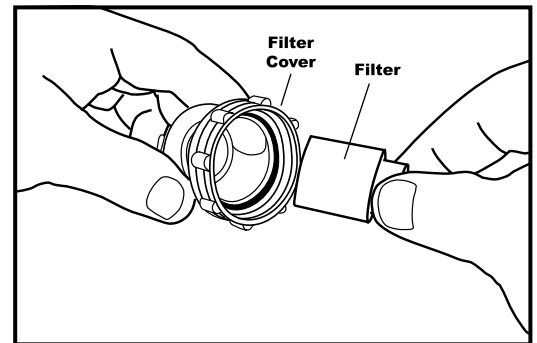

Figure 19
- Separate filter from cover and lightly tap to remove accumulated media (fig. 19).
- Remove the old filter and dispose of it as required by local and federal laws (fig 19).